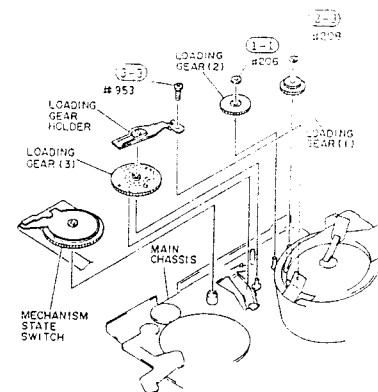
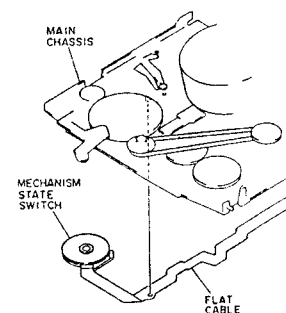

Fig. 2-66
Fig. 2-67
- 1) Remove one (1) washer holding the loading gear (2). (See Fig. 2-66)
- 2) Pull out loading gear (2) from the main chassis.
- 3) Remove one (1) washer holding the loading gear (1). (See Fig. 2-66)
- 4) Pull out loading gear (1) from the main chassis.
- 3) Remove one (1) screw holding the loading gear holder. (See Fig. 2-66)
- 4) Pull out loading gear (3) and mechanism state switch from the main chassis.
- 5) Peel out the flat cable of the mechanism state switch from the main chassis. (See Fig. 2-67)